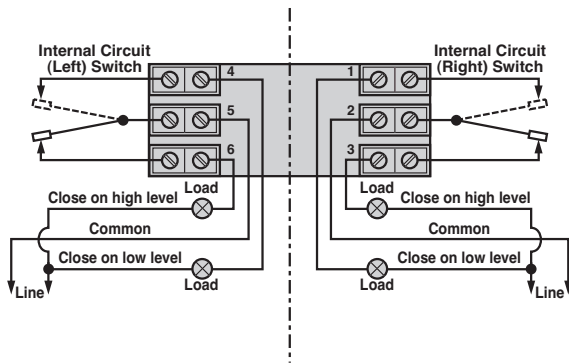

Figure 2
5. The switch terminals are located next to the conduit outlet to facilitate wiring. Bring supply wires through conduit outlet. Route extra wire around enclosing tube under the baffle plate and connect them to the proper terminals. Refer to **Figure 2** or your switch bulletin for this information. See *Switch and Housing Reference, Section 6.2.2*.